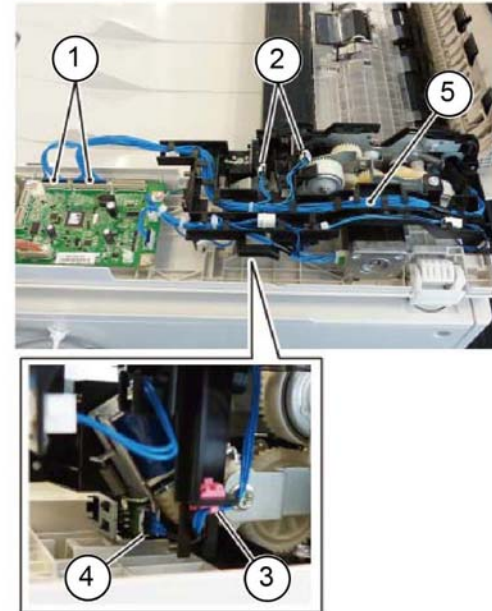

Figure 1 Harness removal
4. Remove the harness from the harness guide, Figure 1:
- a. Disconnect two connectors (1).
- b. Disconnect the sensor connectors (2).
- c. Remove the harness retainer (3) from the guide.
- d. Disconnect the sensor connector (4).
- e. Remove the harness (5) from the harness guide.